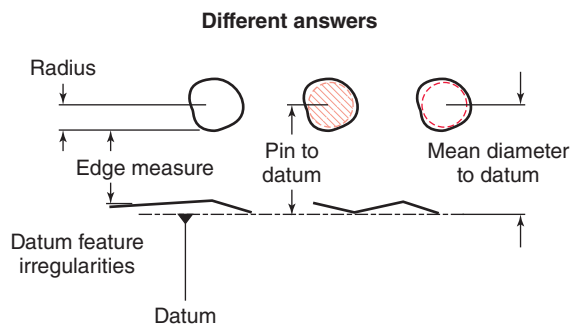

Figure 29-2 Three answers to the question of how far the hole is from Datum A.
1. Element Analysis (Fig. 29-2)
Reserved Circle from Datum The middle test in Fig. 29-2 is accurate if the question is how far the reserved round space is from the datum. To find it, the height of a snug fitting test pin is measured above the datum table. Here, a fairly accurate answer is obtained using standard tools. A typical example of this functionality would be that this hole is to receive a bolt in an assembly to another plate.